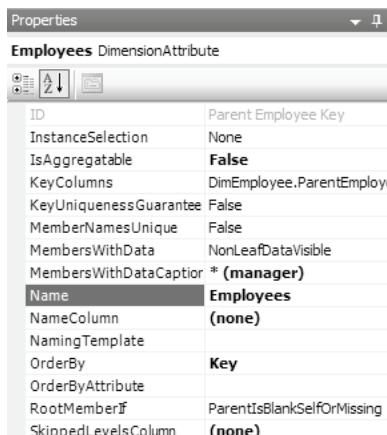

Figure 4.23 UDM gives you a lot of flexibility to custom-tailor a parent-child dimension.
- Select the Employees attribute. In the Properties window (Figure 4.23, verify that the MembersWithData property is set to *NonLeafDataVisible*.